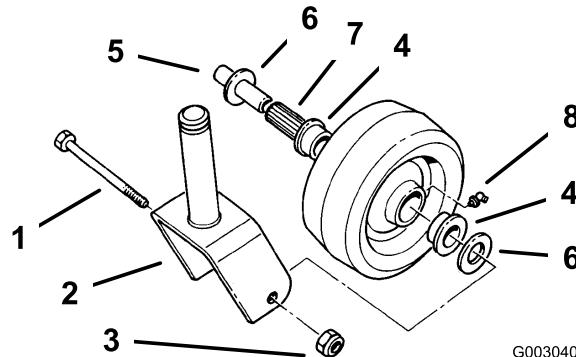

Figure 37
- Remove the locknut and wheel bolt holding the caster wheel to the caster fork (Figure 37).
- Remove one bushing, then pull the spanner bushing and roller bearing out of the wheel hub (Figure 37).
- Remove the other bushing from the wheel hub and clean any grease and dirt from the wheel hub (Figure 37).
- Inspect the roller bearing, bushings, spanner bushing and inside of the wheel hub for wear. Replace any defective or worn parts (Figure 37).
- To assemble, place one bushing into the wheel hub. Grease the roller bearing and spanner bushing and slide them into the wheel hub. Place the second bushing into the wheel hub (Figure 37).
6. Install the caster wheel into the caster fork and secure with the wheel bolt and locknut. Tighten the locknut until the spanner bushing bottoms against the inside of the caster forks (Figure 37).